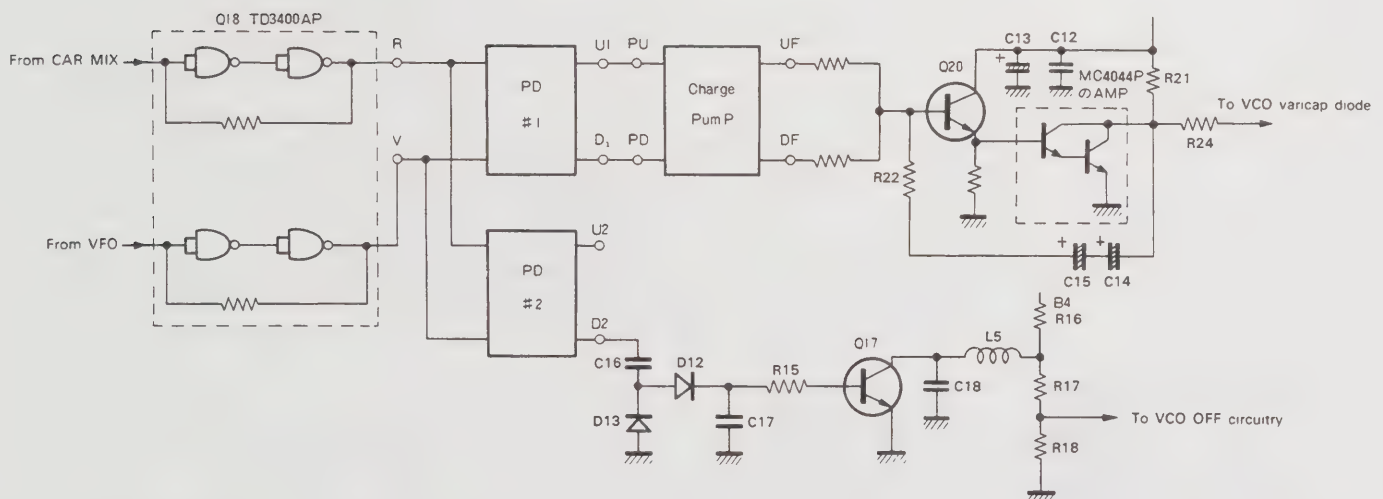

Fig. 8 TS-820 phase detector circuit
MC-4044 consists internally of a phase detector (PD), charge pump and amplifier, and it is used in this transceiver as shown in **Fig. 8**. The output of PD #1 is fed to the varicap of VCO through the charge pump and active filter. The output D2 of PD #2 becomes high level (constant) when either (or both) input signal is removed. By utilizing this quality, it is used as OFF circuit for VCO. If the TS-820 function is changed over to remote VFO without connecting remote VFO, PLL is not locked. Thus, under such a condition, VCO output is automatically turned OFF.